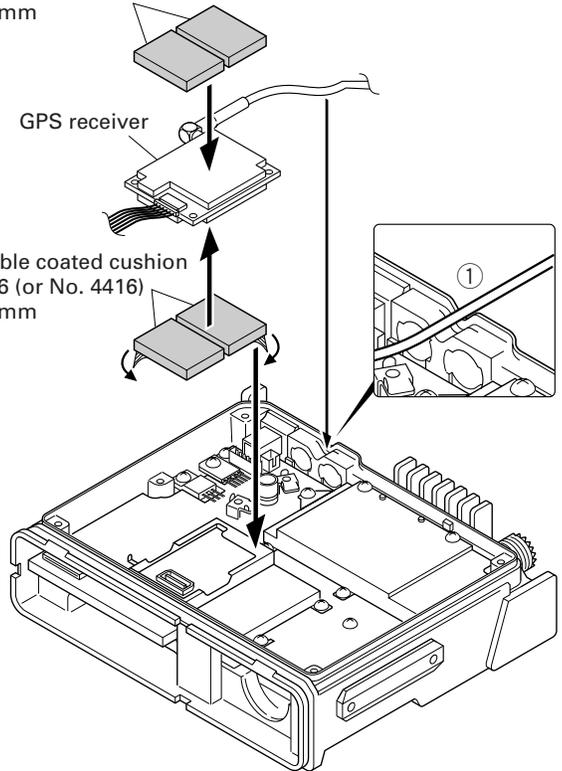

Fig. 6-2
4. Attach the GPS receiver to the shield case with two cushions as shown in Figure 6-2.
6. Place the GPS antenna cable in the hollow at the rear of the chassis. (Fig. 6-2 ①)